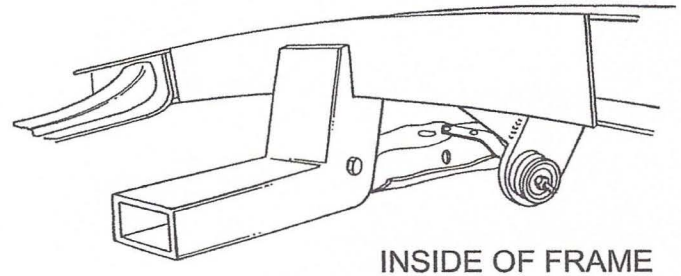

Figure 6
11. Install the strut rod onto the control arm. Now, assemble onto the strut rod the large rubber bushings, including the cupped washers, and the strut mount plate. Be certain to fully tighten the nut on the strut rod to its' fully seated position. See Figure 6. There are two rubber bushing sets available; the standard replacement and the improved set. We recommend the improved set, as it provides more stability to the front suspension. The Pinto and Mustang strut rods are different angles. We recommend the use of Pinto strut rods, as they are bent less than the Mustang strut rods and will position the strut rod plates more closely under the frame rails. The Mustang strut rods may be used, however, but must be heated in the elbow area and bent outward. The rod is bent outward until the strut mounting plate lines up to the frame rail. The strut rod will act as an alignment fixture while you tack weld the mount plate in place, then tack weld the gusset in place. Remove the strut rod, bushings, and arm, and finish welding to the frame and each other.